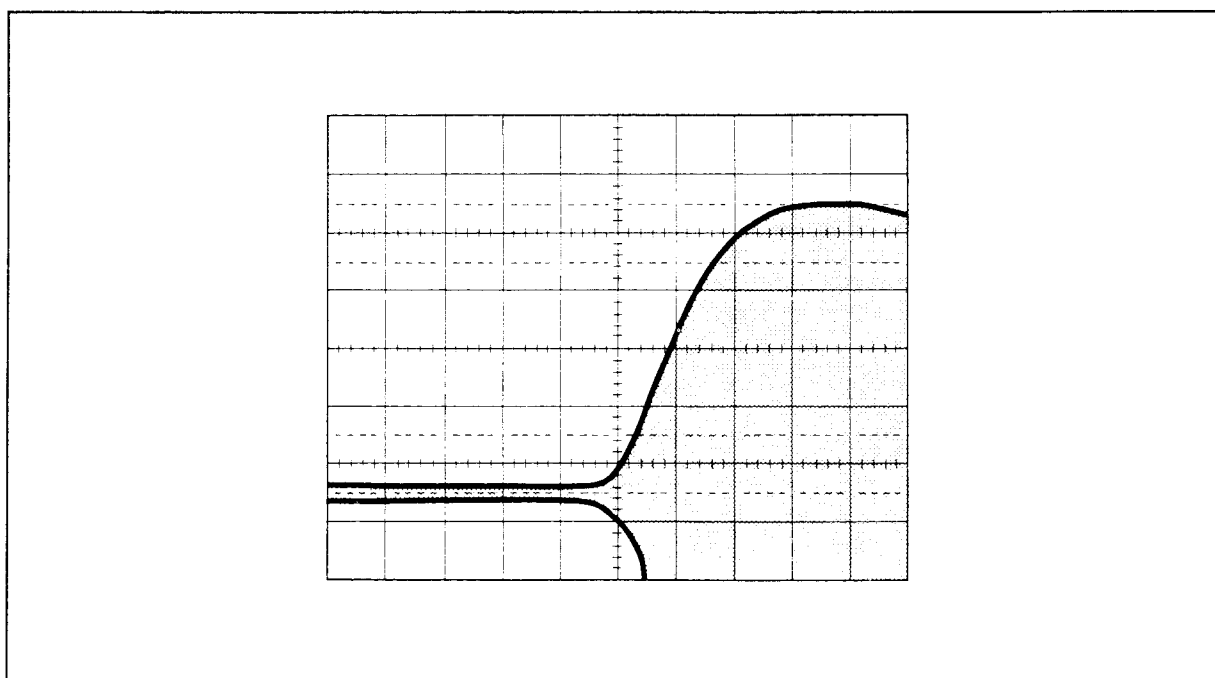

Figure 4-14. Pulse Modulation Rise Time Waveform
- Set the oscilloscope horizontal for 50 nanoseconds/division and select channel A input only. Adjust the channel A (pulsed IF input signal) vertical gain and position so that the pulse OFF is at the 0% graticule line and the pulse ON is at 100% graticule line. Select the horizontal MAG X10. The oscilloscope is now calibrated for 5 nanoseconds/division. Adjust the horizontal position control to position the modulation envelope so that the 10% point of the envelope rise time is at the center vertical graticule line similar to Figure 4-14.